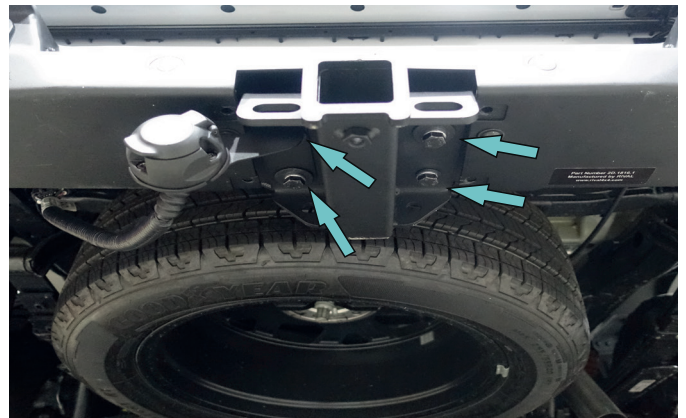

Fig. 38
37. Install tow bar square (item 9) and tow bar socket bracket (item 8) using bolts M12x1.25x40 (item D), spring washers 12 (item S) and washers 12 (item H) on bracket (item 2) as shown in fig. 38.